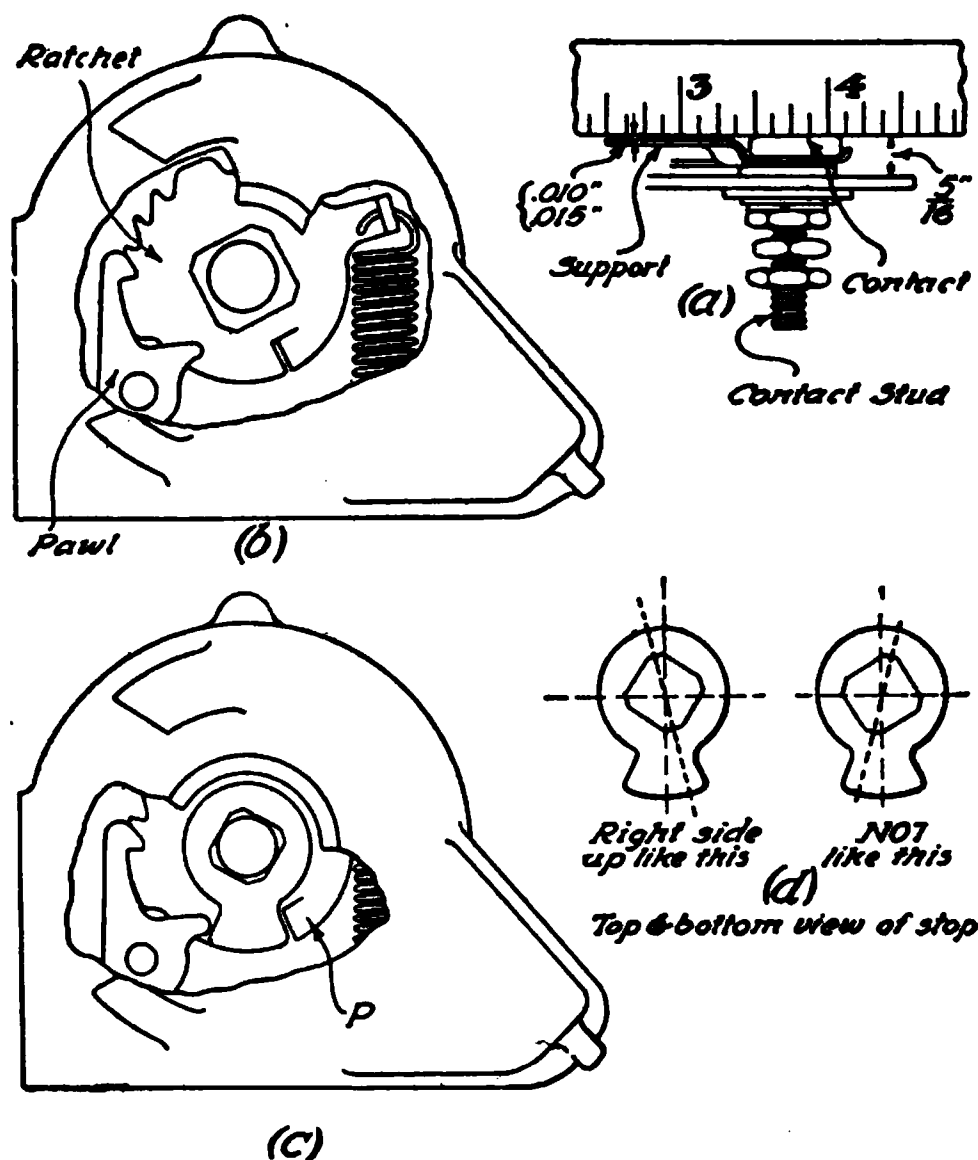

Fig. 307. Assembly of Starting Switch
The upper surfaces of the supports must be .010 to .015 inch lower than the contact surface of the block. Care should be taken that the upper surface of the contact blocks are $\frac{5}{16}$ inch above the inner surface of the cover. A small steel straightedge laid upon the face of the contact block and extended over the supports, as shown in Fig. 307 (a), will serve as a means of checking these dimensions.
Before placing in service, the contact surfaces must be carefully cleaned and lubricated with a very small quantity of vaseline. To reassemble the switch: (1) Connect the spring 1813, Fig. 306, to the arm of the ratchet; (2) place the contactor member 2344 in the switch case in such a position that the ratchet will lie against the pawl 1830; and (3) hold the switch case in the left hand, lever side up, and insert the right forefinger through the hole in the switch case and introduce the pawl into the first notch of the ratchet, Fig. 307 (b); (4) hold these parts carefully in position and replace the cover 2404, Fig. 306, fastening it to the switch case by means of the three screws; (5) insert the stop through the hole in the switch case and replace it upon the ratchet plate in such a position that the elongated portion of the stop will lie between the raised projection which is found on the ratchet plate and the end of the short lever on the pawl as shown in Fig. 307 (c). It is very important that the stop be placed in the switch right side up, Fig. 307 (d) illustrating the proper method of doing this. (6) Place the spring on the shaft and replace the shaft in the switch, taking care while entering the shaft not to disturb the arrangement of any of the switch parts; (7) replace the collar and the cotter pin; and (8) connect the spring 2265 with the lug on the switch case. A drop of light oil should be applied to the bearing point at each end of the switch shaft 2401.